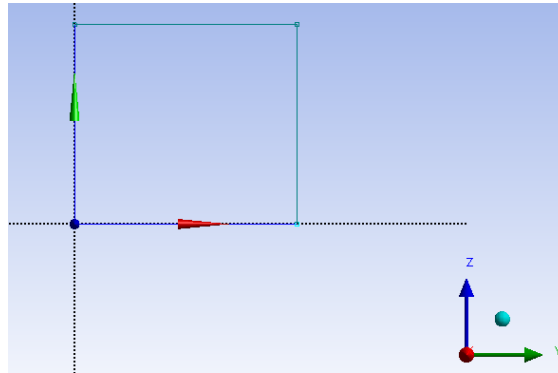

Figure 5: A rectangle with one of its corners on the origin
9. Sketch a rectangle with its bottom left corner coincident with the coordinate system's origin (a **P** should appear as the cursor passes over the origin) and the opposing corner in the positive y and z quadrant. Make the rectangle relatively small. It should look similar to Figure 5.